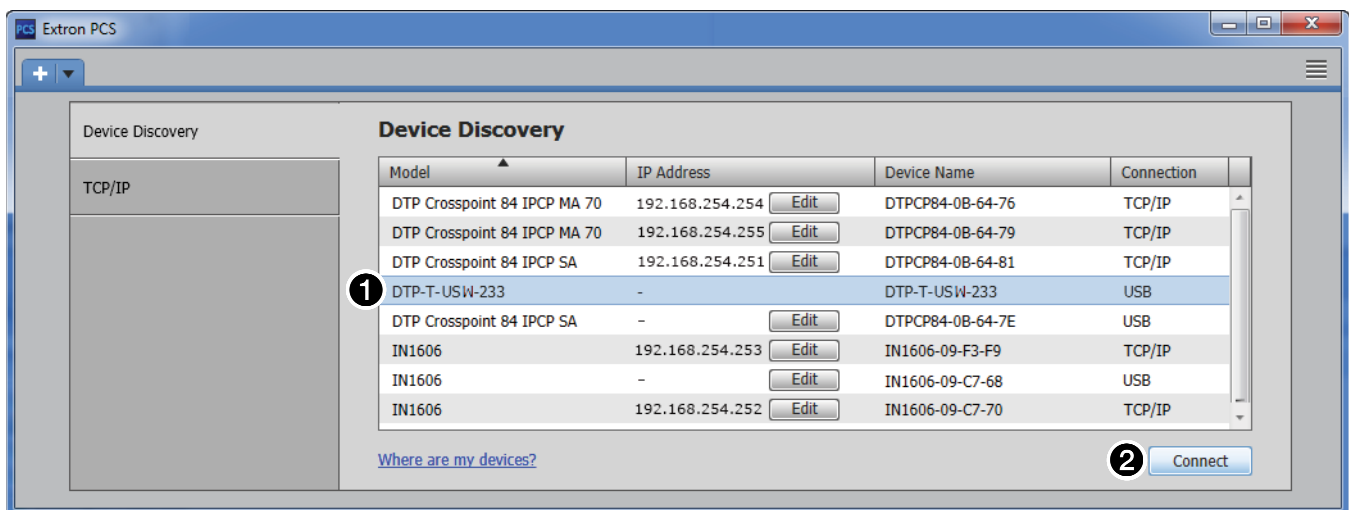
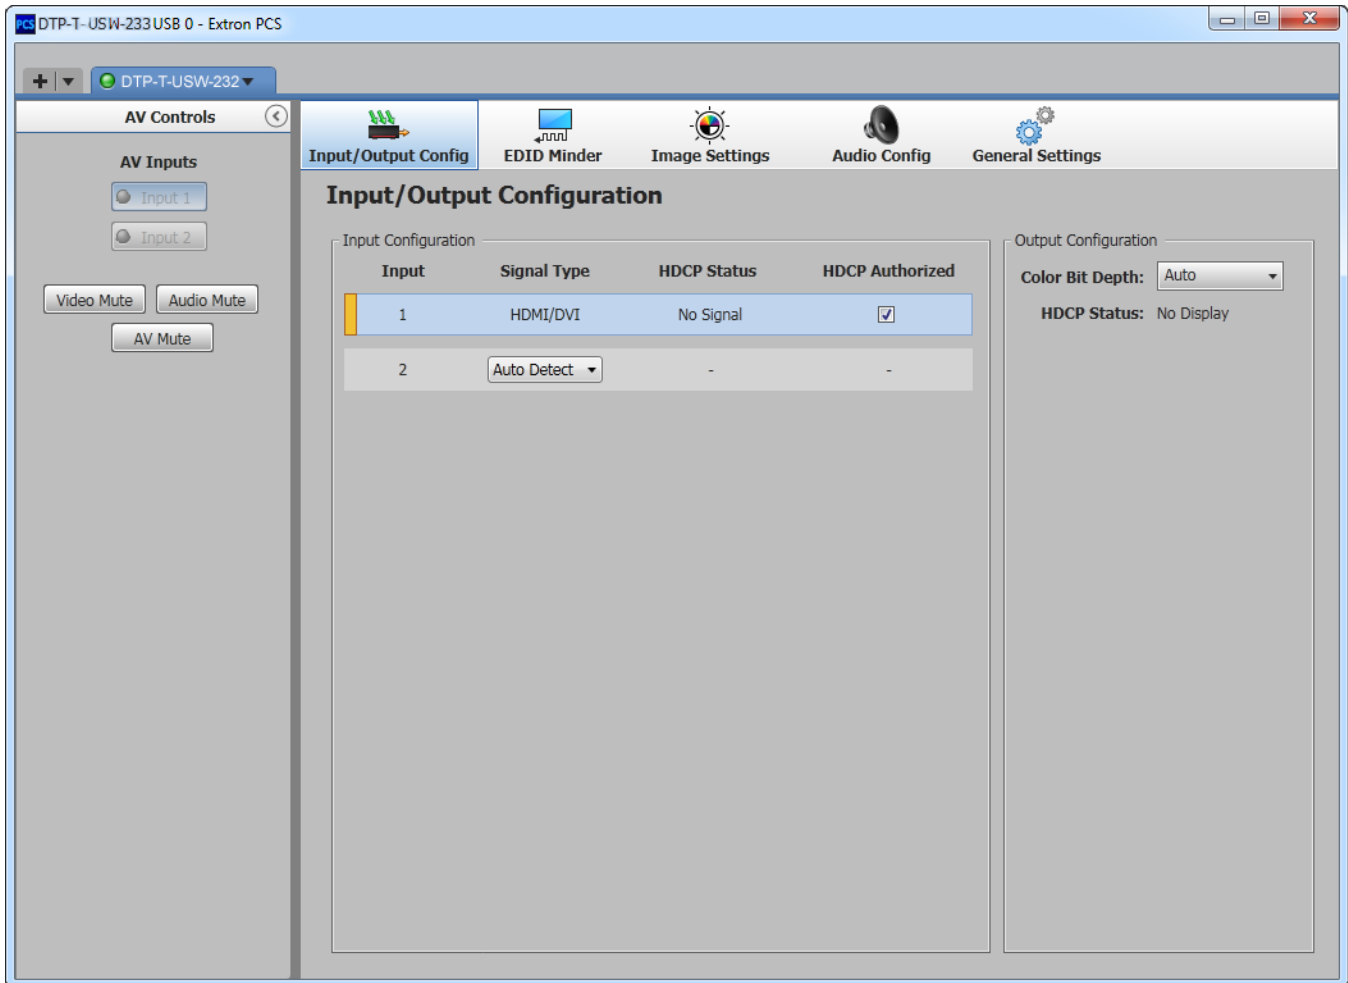

Figure 15. Device Discovery Screen
Figure 16. Product Configuration Software
The Product Configuration Software opens to the Device Discovery screen (see figure 15).
- Select (click) your DTP T USW 233 unit (see figure 15, ❶).
3. Click **Connect** (see figure 15, **2**, on the previous page). The Product Configuration Software opens to the **Input/Output Configuration** page (see figure 16).